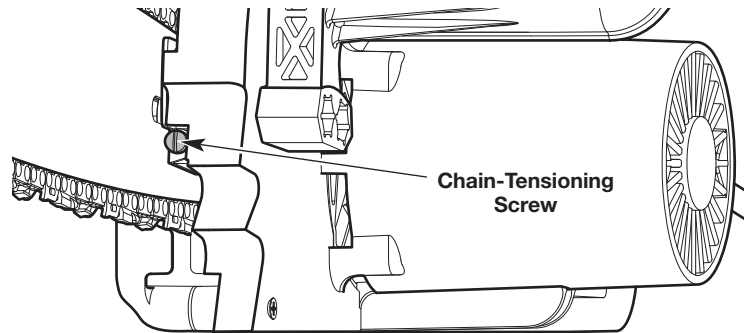
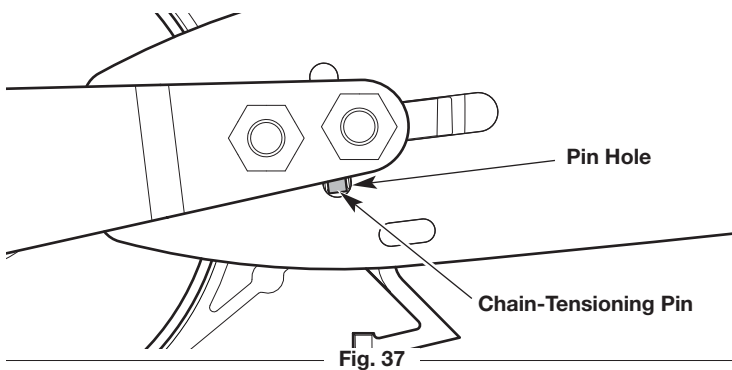

Fig. 32
Fig. 37
2. Hold the guide bar tip up and use a flat-head screwdriver to turn the chain-tensioning screw (Fig. 32).
1. Use a flat-head screwdriver to turn the chain-tensioning screw counterclockwise (Fig. 32) until the chain-tensioning pin is at the far left of the mounting surface (Fig. 37).
3. Make sure the chain-tensioning pin is in the pin hole on the guide bar (Fig. 37). If necessary, turn the chain-tensioning screw to move the chain-tensioning pin.